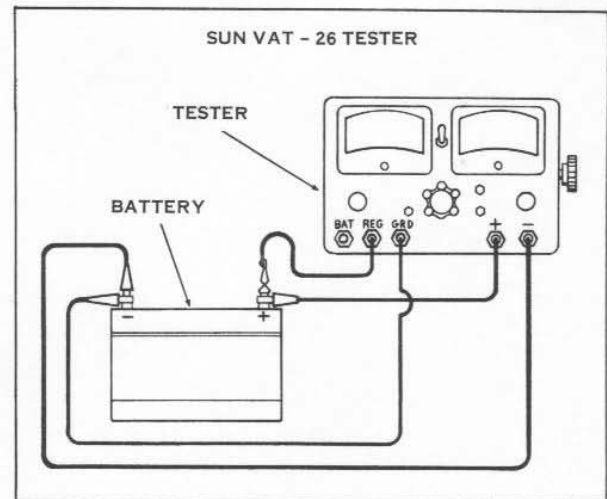

Figure 5-40. Testing Battery Capacity
B. Use of Load Tester (Figure 5-40)